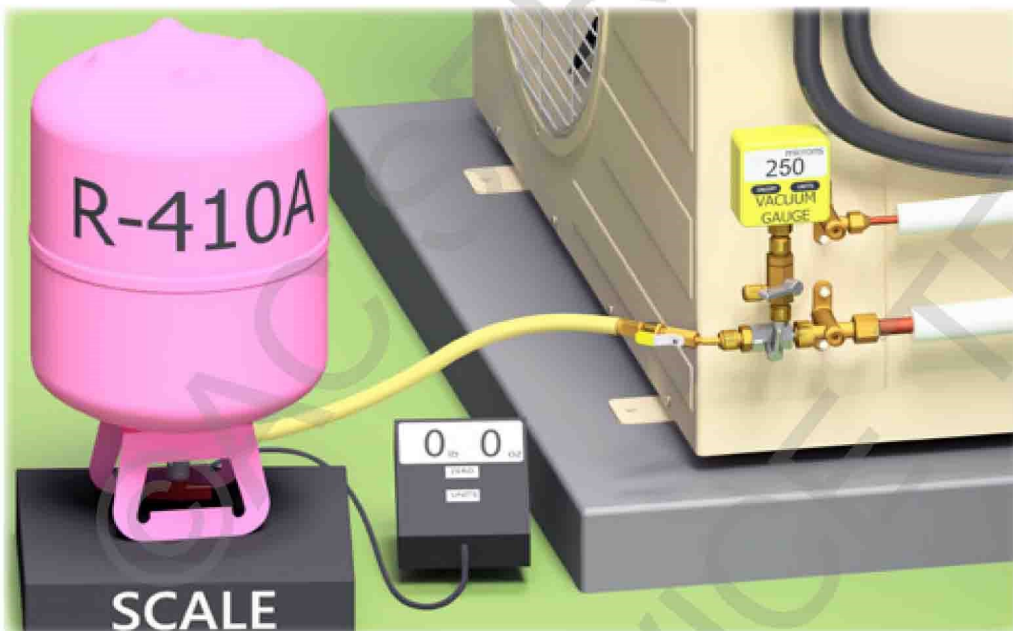

Figure 7-29: Step 11-B of the Vacuum Procedure with a Bottle
Step 11-B, with Bottle (See Figure 7-29): After purging air from the hose, place the bottle on the scale and turn the scale on. Zero out the scale. Determine the amount of refrigerant to be added based on the line set length, tube diameter, and manufacturer’s data.